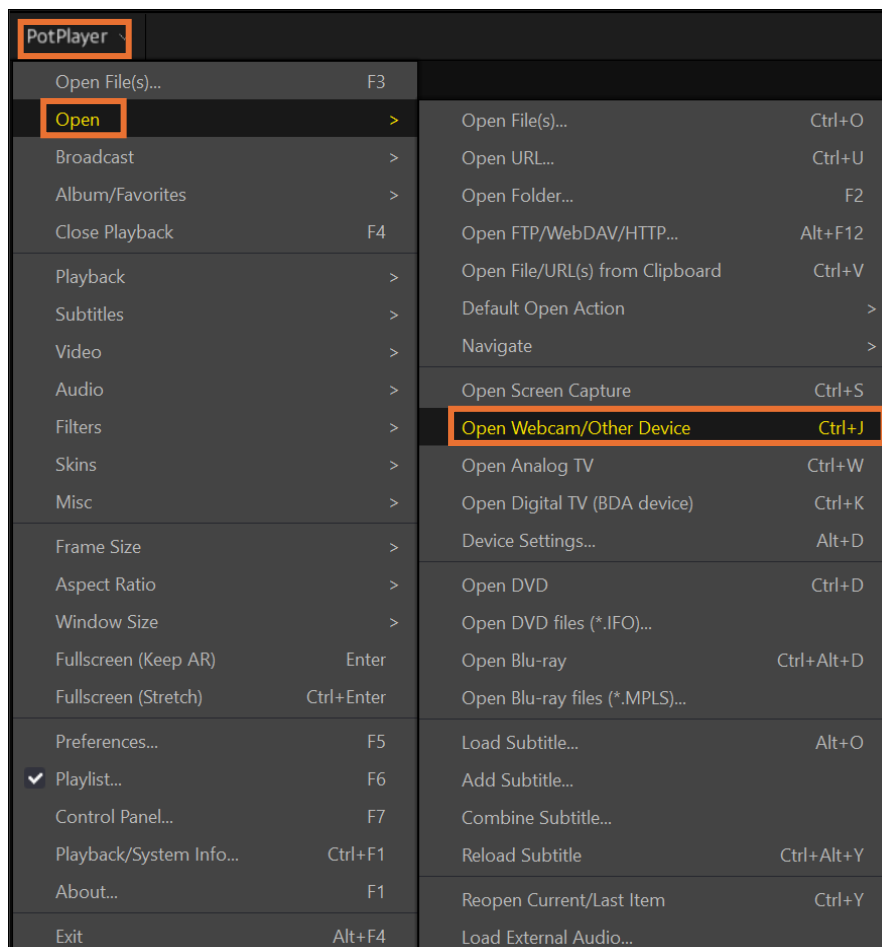

Figure 6.14. Open Webcam or Other Devices in PotPlayer
3. To open a video, either press the shortcut Ctrl+J or click **PotPlayer > Open > Open Webcam/Other Device**, as shown in Figure 6.14.